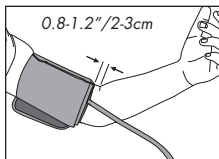

Fig. 5
4. The bottom edge of the cuff should be positioned approximately one inch above the elbow joint, Fig 5.